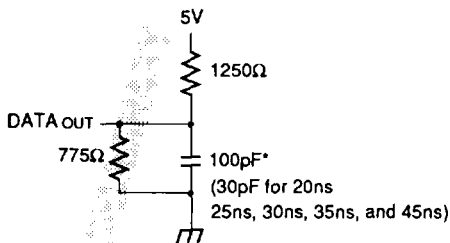

Figure 1. Output Load
Output Load	See Figures 1, 2, 3 and 4
1. Transition is measured ±500mV from low or high impedance voltage with load (Figures 1, 2, 3 and 4).
1. Transition is measured $\pm 500\text{mV}$ from low or high impedance voltage with load (Figures 1, 2, 3 and 4).